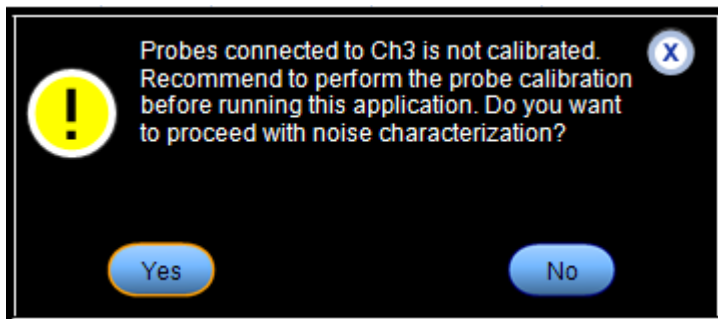

Figure 24: Probe Calibration Pop-up
12. If probes are connected and probe compensation was not performed earlier, the below pop-up is shown in Figure 24 on page 27. Click **No** and perform the probe compensation.